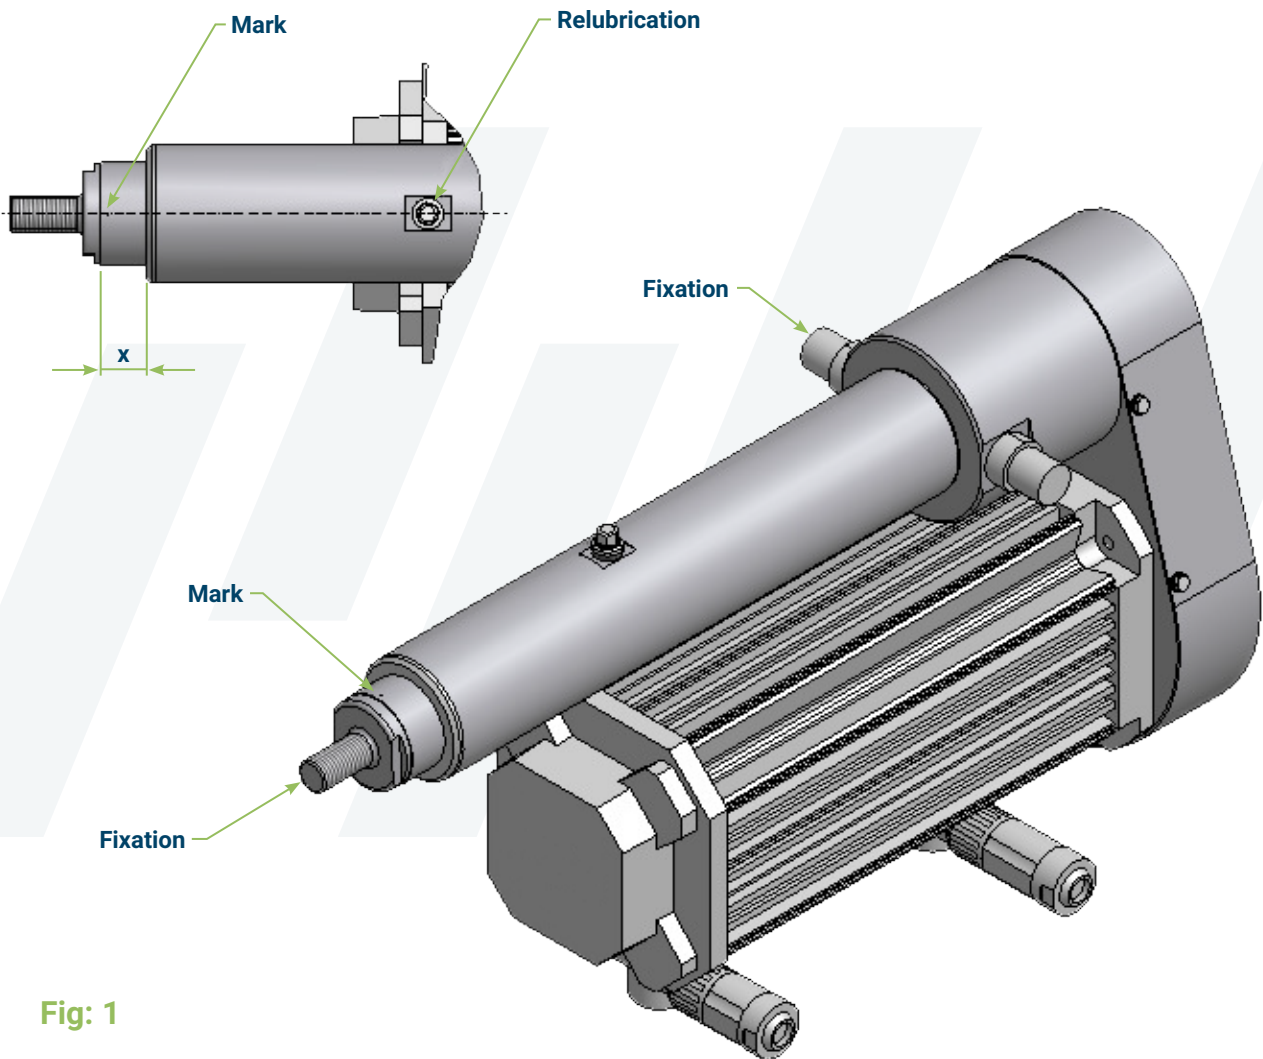

Fig: 1
- Design of the actuator does not allow it to run against mechanical end stops, not even its own end limits. To find the end limits, line up the end of the inner tube with the black bushing of the outer tube until  $X=0$  (see fig. 1). In this position there is still 2 mm to the end limit. To find the opposite end limit, position the actuator until  $X$  equals the nominal stroke. In this position there is still 5 mm until the end limit.
- To be able to relubricate without dismantling actuator, it is important that the mark on the inner tube is line up with the regrease hole of the outer tube (fig. 1) when mounted.